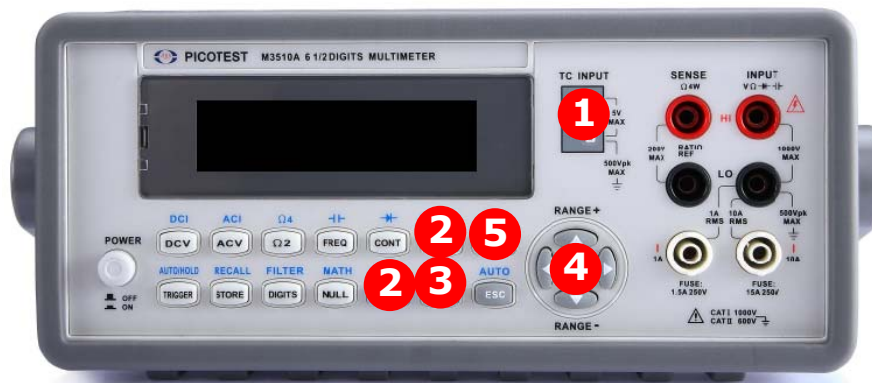

Figure 4-11
1. Select a type and matched an adaptor correctly as shown in **Figure 4-11**.